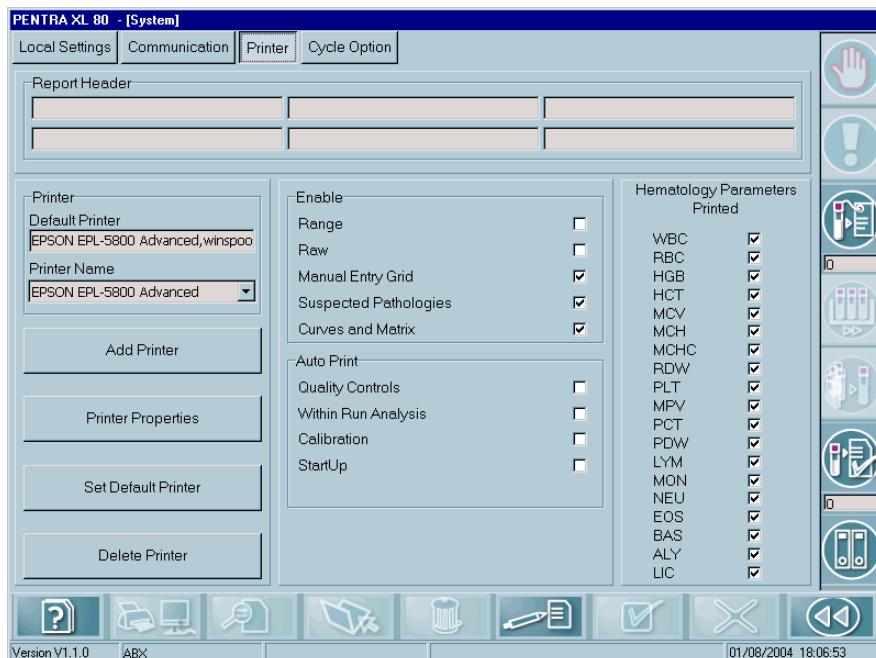

Fig. 5-24 System Printer tab
Default settings for the checked boxes are as shown Fig. 5-24, page 5-31.
- ◆ «System\Printer\Raw» option (See Fig. 5-24“System Printer tab, page 31) has been checked in this screen